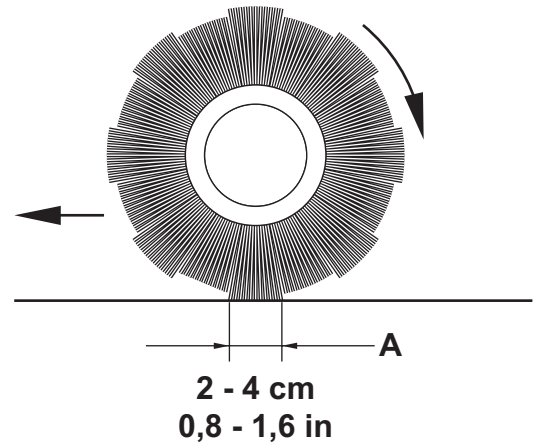

Figure 6
- Check that the main broom print (A, Fig. 6), along its length, is 2 to 4 cm wide.
If it is not possible to adjust the print (A, Fig. 6) properly, because the pressure on the floor at the ends of the broom is different, refer to the Service Manual.